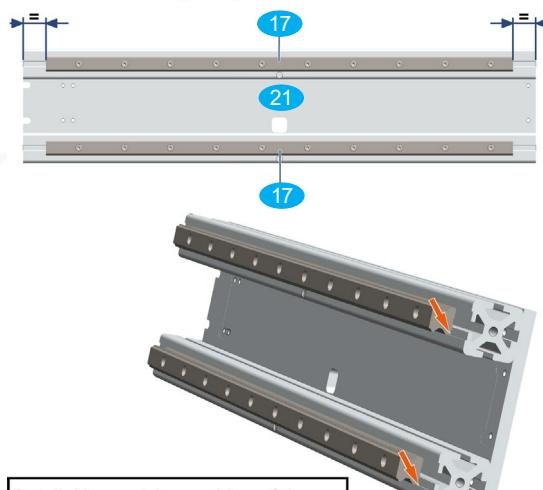

Fig. 18: Assembly of the Y linear guides
- Place the linear rails on the profiles of the portal beam in such a way that the reference edges of the linear guides marked with arrows in Figure 18 (detail) point to the milled stop edges.